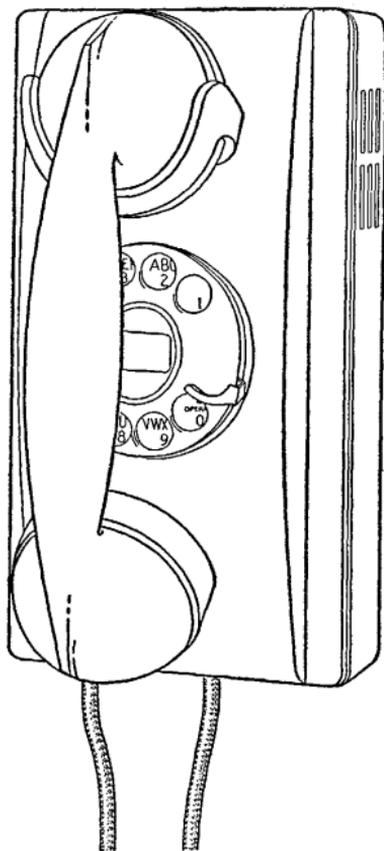

Fig. 1—354-Type Telephone Set—External View
2.01 The 354-type telephone set shown in Figs. 1 and 2 is used at common battery anti-sidetone stations on non-polarized ringing lines in the following classes of service.
2.04 The 356-type telephone set in external appearance is the same as the 354-type shown in Fig. 1 but is arranged for use at common battery anti-sidetone stations in four-party selective and eight-party semiselective services. The manual black set is coded 356A-3 and the dial black set 356C-3.